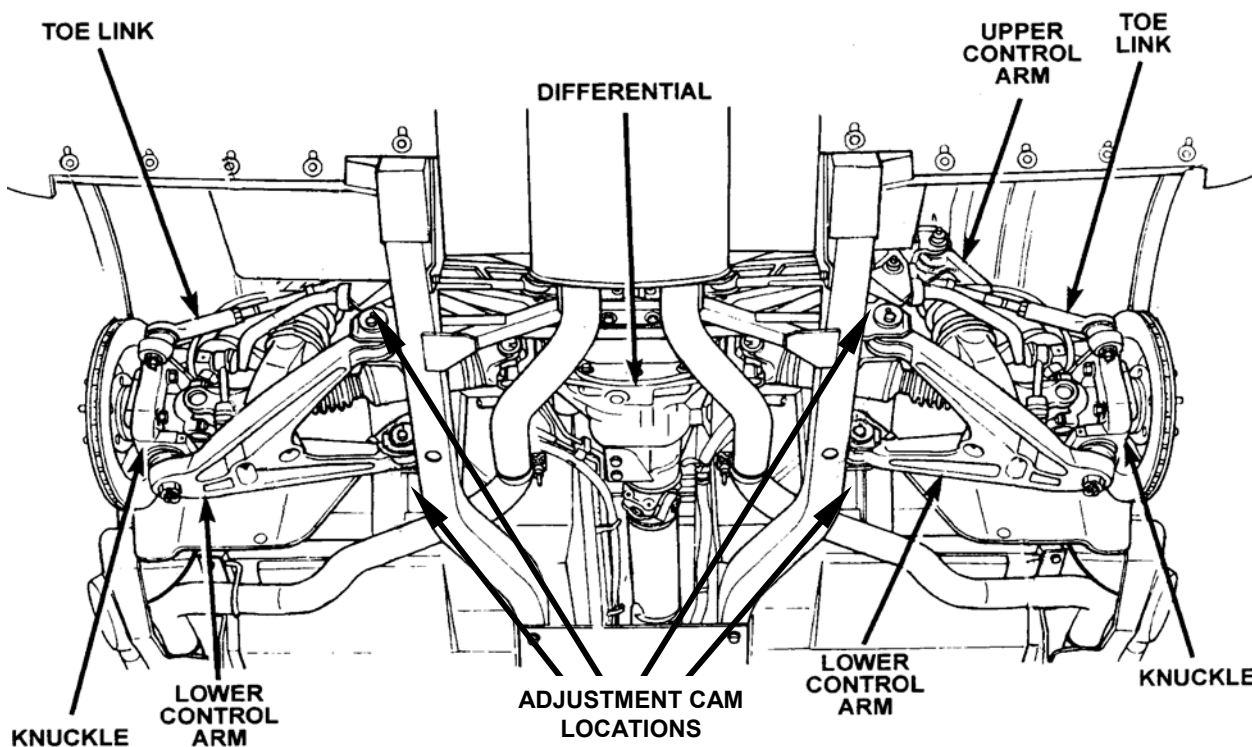

Figure 21
8. Adjust the rear caster angle using the measurements viewed on the DRB III screen, and the camber angle using the measurements viewed on the alignment equipment. Camber and caster angles are adjusted by turning the cam bolts on the lower control arm bushings (Figure 21). Refer to the Alignment Specifications Chart on page 33 of this document.